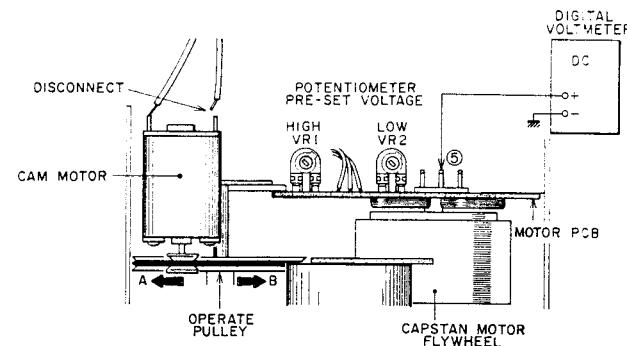

Fig.4-4.
### 4-4. POTENTIOMETER PRESET VOLTAGE ADJUSTMENT (Refer to fig.4-4 to 4-5)
- Connect the digital voltmeter as shown in fig.4-4.
- With power ON, adjust VR2 so that the voltage reading will be 1.15V (DC).